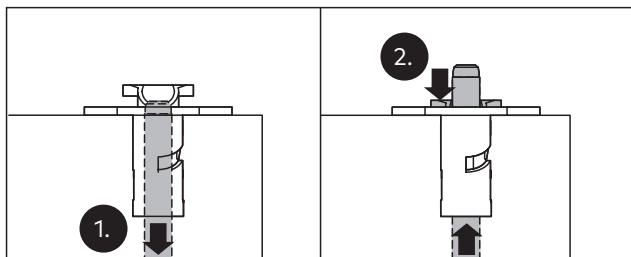

Fig. 50 Perform a function test
- 12.** Function test: Operate the switch lock and check whether the rod extends (Abb. 50).